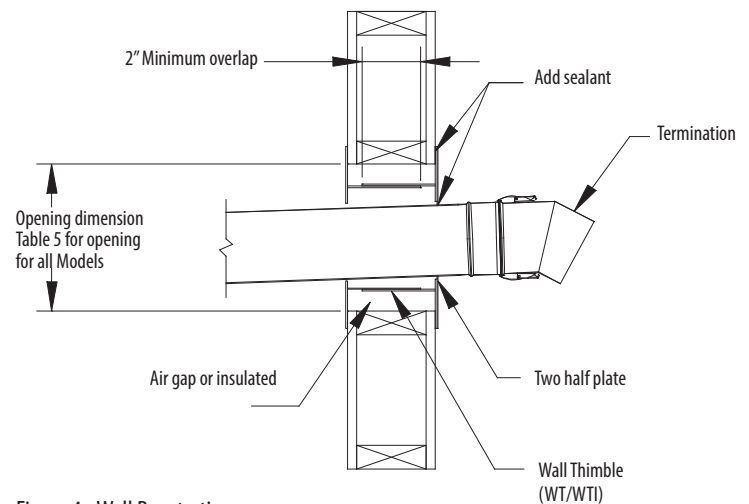

Figure 4 - Wall Penetration
1. Prior to installation, determine proper location of wall thimble (WT) or wall thimble insulated (WTI) so that a minimum slope of 1/4" (6mm) per foot is maintained in the horizontal section of vent to ensure proper flow of condensation.
3. Install the wall thimble by inserting the larger of the two parts on the appliance (interior side). See Figure 4.